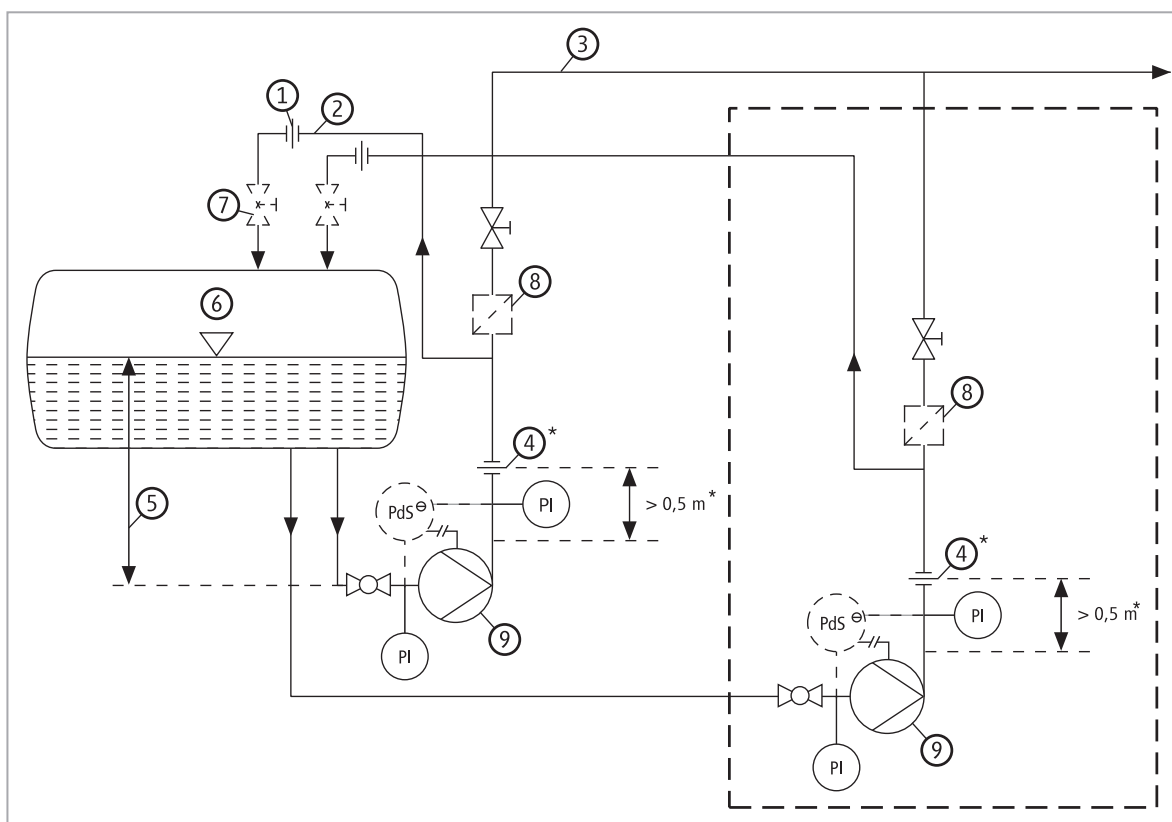

Fig. 3
Operation within the required minimum and permissible maximum flow rate can be ensured by the use of a by-pass or suitable Q_{\min} and Q_{\max} -orifices (pls. see Fig. 3). Instead of the Q_{\max} -orifice, a differential pressure switch can be used to stop the pump if the discharge head becomes lower than the minimum permissible discharge pressure equivalent to Q_{\max} . Time delay max. 10 sec.
4. During standstill, the by-pass is used as a vent line. The pump should not be started unless it is primed with liquid refrigerant. During first priming or re-starting, all parts of the pump should be in thermal equilibrium with the suction vessel. When using non-return valves at the pump discharge, note that the by-pass line must be installed before the non-return valve, to permit automatic venting (Fig. 3).
8. When two or more pumps in parallel operation serve a common discharge line (Fig. 3), a separate by-pass line with Q_{\min} -orifice must be provided for each pump unit. This is to remove the gas which arises during standstill of the pump. With this arrangement, the minimum flow is assured and does not depend on the differential head. If one pump is used as a stand-by pump, non-return valves have to be mounted in the discharge line to avoid back-flow from operating to stand-by pump. The stand-by pump should be maintained full of liquid so as to be available for operation immediately. The by-passes enable a switch-over from one pump to the other or a connection of a second pump without operation of shut-off valves.